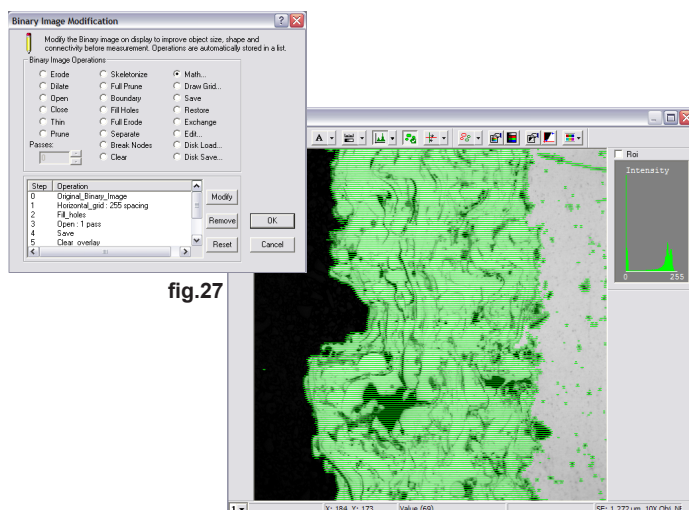

fig.27
6. Click the **Modify** icon in the **Task** toolbar. The **Modify** window appears (fig.27). Click **Draw Grid > Select Horizontal Grid** and enter 255 for the Y spacing to create two horizontal lines > **Fill Holes** to join the green overlay > **Open** to remove unwanted artifacts > Click **Save** to save the current overlay in memory for use later > Click **Clear** to remove the current overlay > **Draw Grid > Select Horizontal Grid** and enter 3 for the Y spacing > click **Math** and select **AND** to accept the lines where they match the previously saved overlay. The complete process may be observed by clicking through the Steps # 0 to 7 (fig.27).